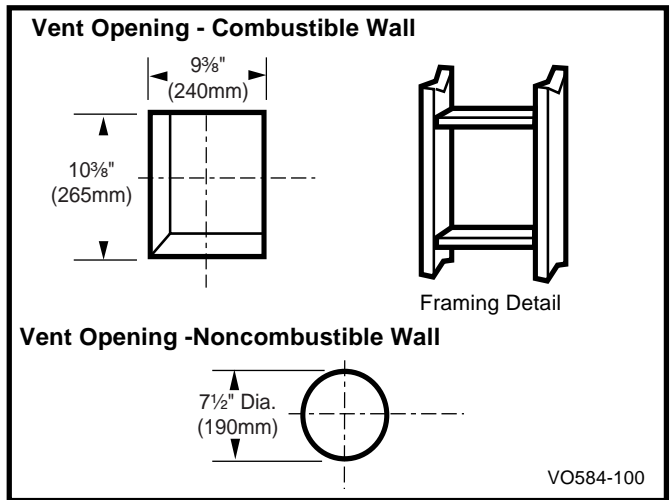

Fig. 17 Locate vent opening.
2. Locate the vent opening on the wall. Refer to Figures 17, 18 & 19 to determine the top of the opening centerline. It may be necessary to first position the stove and measure to find the hole location. Depending on whether the wall is made of combustible materials, cut the opening to the size shown in Figure 17. Combustible wall openings must be framed as shown in Figure 17.